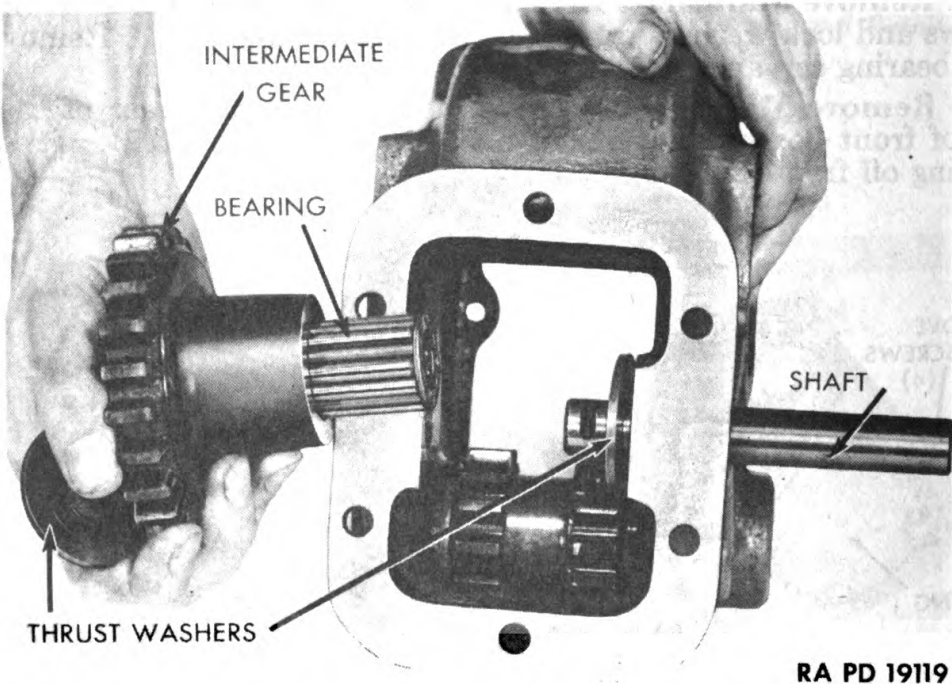

Figure 200 — Removing Intermediate Gear and Shaft
g. Remove Power Take-off Intermediate Gear. Remove cotter pin from intermediate shaft. Push shaft out of housing, and remove the intermediate gear, bearing, and two thrust washers (fig. 200).